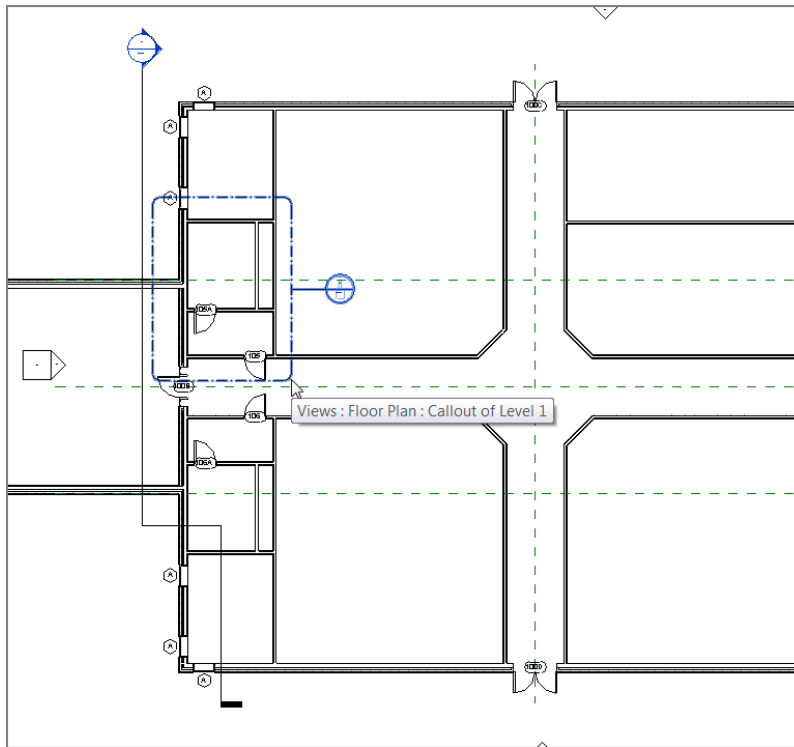

FIGURE 3.67: Creating a plan callout
2. Zoom in on the area shown in Figure 3.67.
4. Pick a window around the lavatory, as shown in Figure 3.67.